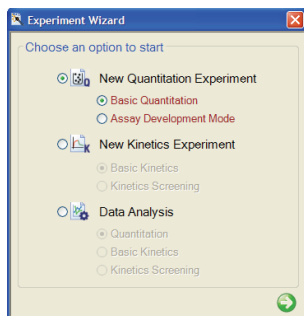

Figure 3.1 Experiment Wizard
1. In the Experiment Wizard, select the **New Quantitation Experiment** and **Basic Quantitation** options. (Figure 3.1).